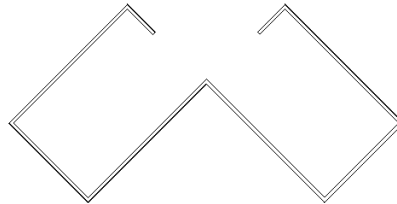

Figure 3-49 The sketched inclined wall exterior profile
10. Now, create the next two wall segments of lengths 60'(18288 mm) and 14'(4267 mm) to complete the inclined wall exterior profile, as shown in Figure 3-49.